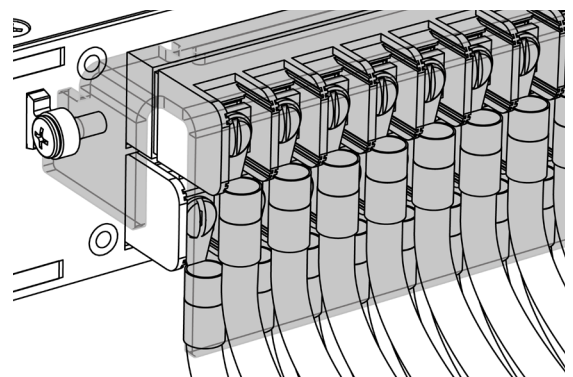

Figure 17. Output safety cover
- Step 3.** Attach the included output safety cover by snapping it onto the pre-tightened mounting screws (see Figure 17).